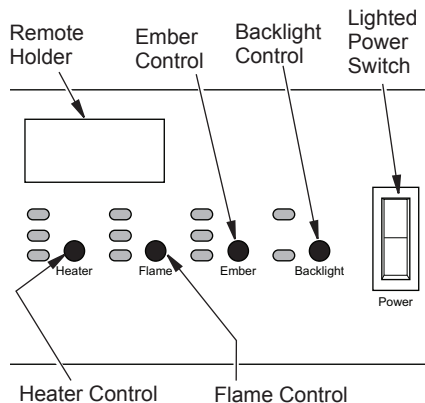

Figure 5 - Controls For Electric Fireplace
The controls (see Figure 5) are located behind the hinged top louver panel. Louver panel will be hot during and immediately after operation. To open, pull gently on louver panel using 2 hands at outer edges of louver. Do not open in center of louver.
2. Turn on lighted power switch (see Figure 5).